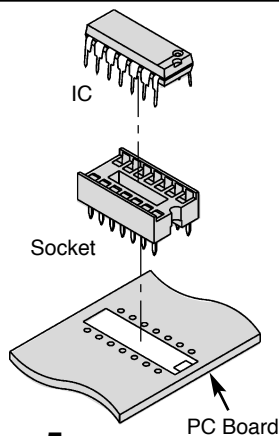

Figure 5
- ☐ U1 - LM2901 IC (see Figure 5)